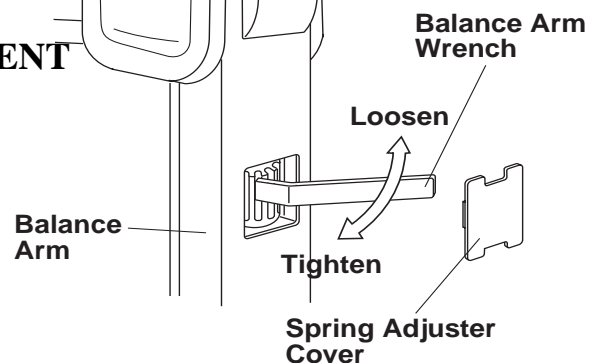

Fig.3-26 Balance Arm Tension Adjustment
2. If either balance arm drifts higher or lower from the set position, remove the spring adjuster cover and adjust the balance arm spring tension with the balance arm wrench. (Fig.3-26)